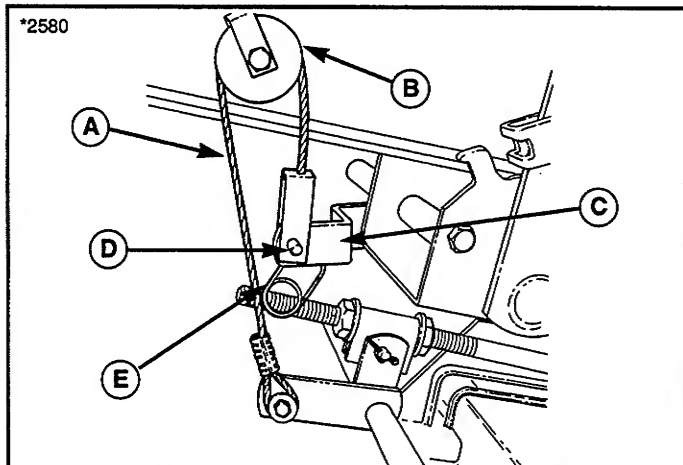

Figure 7. Mower With Manual Lift (Left Side Shown)
4. **Manual Lift.** See figure 7. Position the left and right mower lift cables (A) over the lift pulleys (B) and fasten each cable to the tractor lift arm (C) using the clevis pins (D) and safety clips (E). Install clevis pins from the left side of tractor lift arms with safety clips installed on the right side of lift arms.
- Disconnect the mower lift arms from the tractor lift arm (figure 7 & 8). Re-install clevis pins, washers and safety clips on mower lift arms for storage.